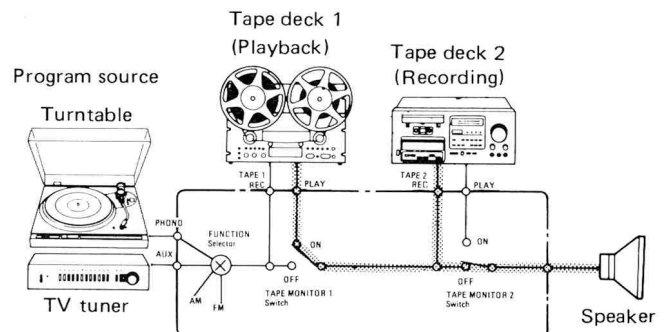

Fig. 13
1. As shown in Fig. 13, connect the tape decks to the receiver's TAPE 1 and TAPE 2 jacks.